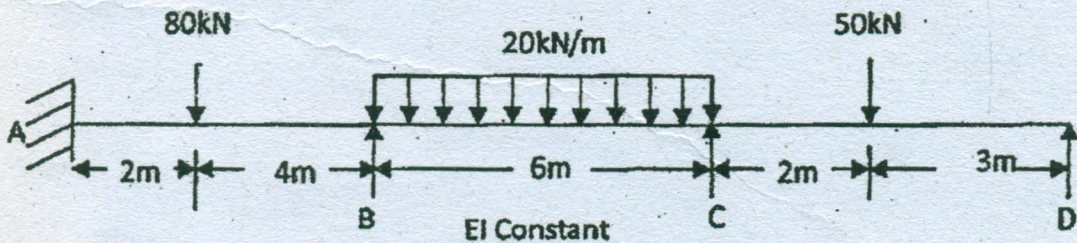

Fig. 15 (a)
15. (a) Analyse the continuous beam loaded as shown in Fig. 15 (a) by the method of moment distribution. Draw the bending moment and shear force diagrams.